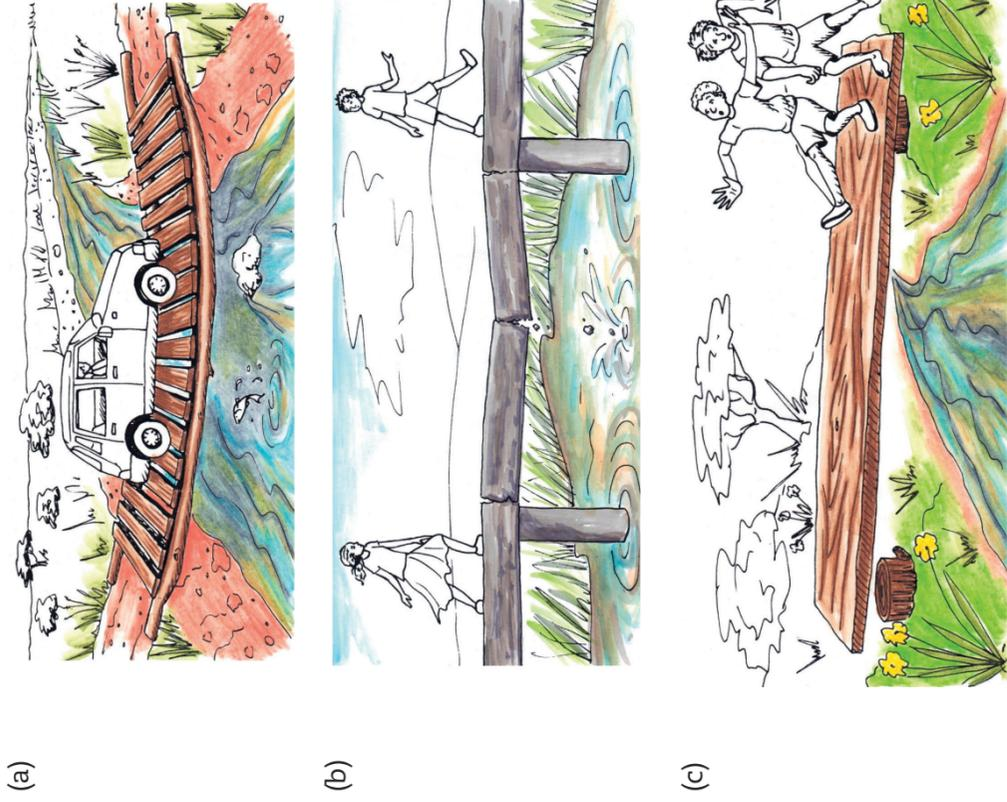

Figure 24
5. The pictures in Figure 24 show different ways that bridges can fail. Describe what went wrong in each of the three cases, and how it could be prevented from happening again..
- Figure 24 b): The centre span needs to be reinforced with iron bars in the concrete, or it needs to have an additional supporting column.
- Figure 24 c): The supports on each side need to be wider than the bridge, and the bridge needs to be anchored to these supports to prevent it twisting.